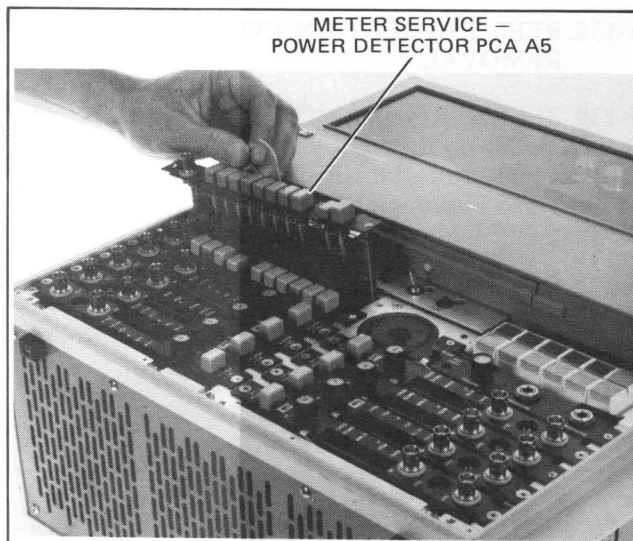

Figure 5-57. Meter Select/Power Detector PCA Removal
c. Remove the two screws from each side of the panel (see Figure 5-57).